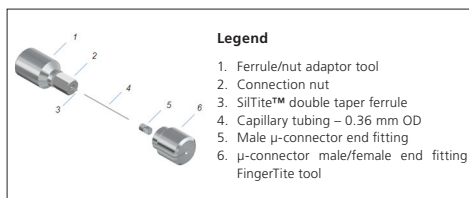

Figure 1. Exploded diagram of the first stage of the μ -Union connector installation.
2. Referring to Fig 1, locate the Ferrule/nut adaptor tool (1) and connection nut (2). Screw the nut onto the tool – the internal thread of the nut is designed to allow the male end fitting to swage the double taper ferrule.